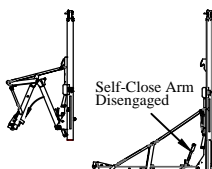

Figure 7: Step 8.
- Step 8. Allow the platform self-close arm to unfold the platform to the horizontal position as it lowers. Check to make sure the self-close arm has returned to the disengaged position (Figure 7).